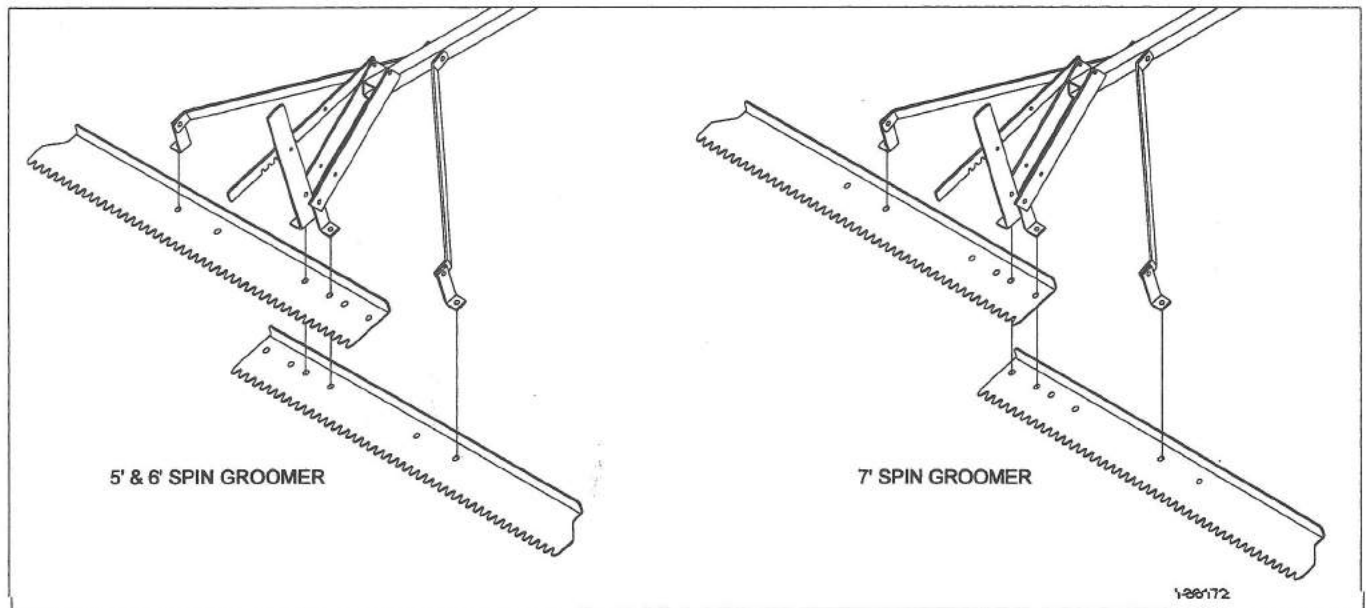

Figure 2C - Assembling the Rake
3. Refer to Figure 2C and determine the appropriate assembly for your rake pieces. Note that the two rake pieces may be assembled for different lengths according to the size of spin groomer being used. If you are using the rake attachment by itself (i.e. without a spin groomer), choose the size that is most appropriate for your grooming application.